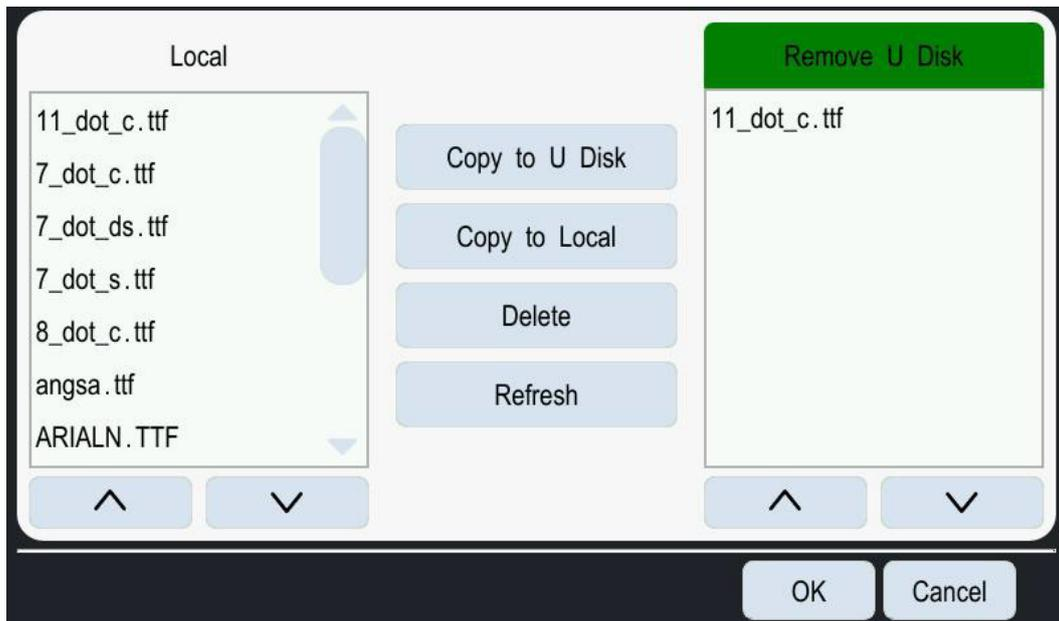

Figure 5-17: Download File Interface
2. Use the “**Refresh**” button **Refresh** to update the U Disk file view after inserting a new USB drive or adding files. The download file interface is shown in Figure 5-17.